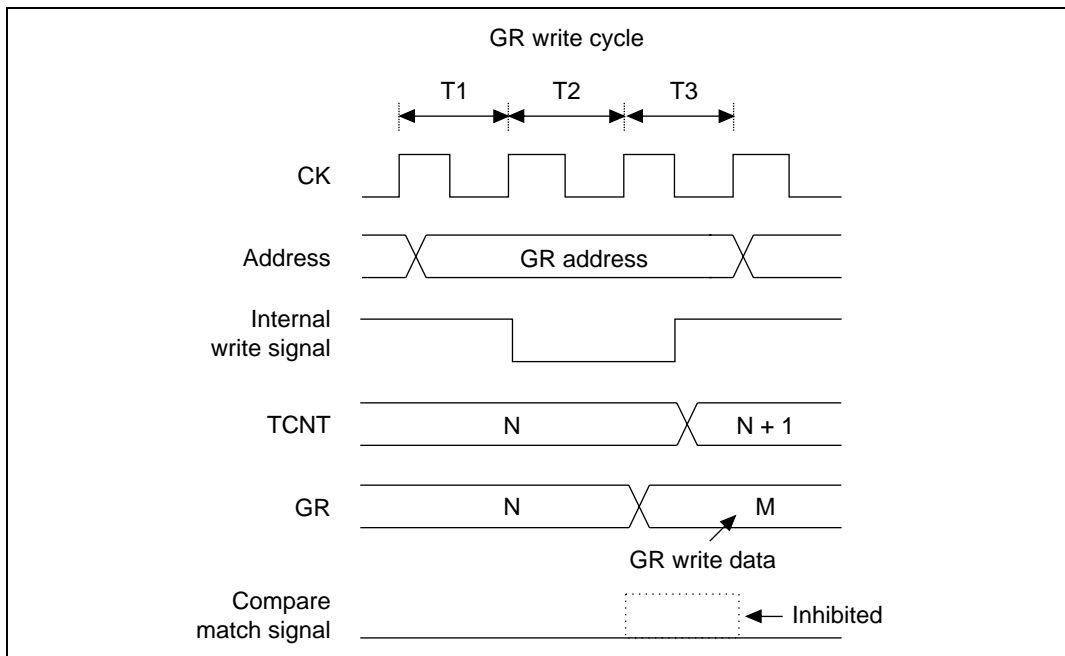

Figure 10.61 Contention between General Register Write and Compare Match
If a compare match occurs in the T3 state of a general register (GR) write cycle, writing takes priority and the compare match signal is inhibited. The timing is shown in figure 10.61.